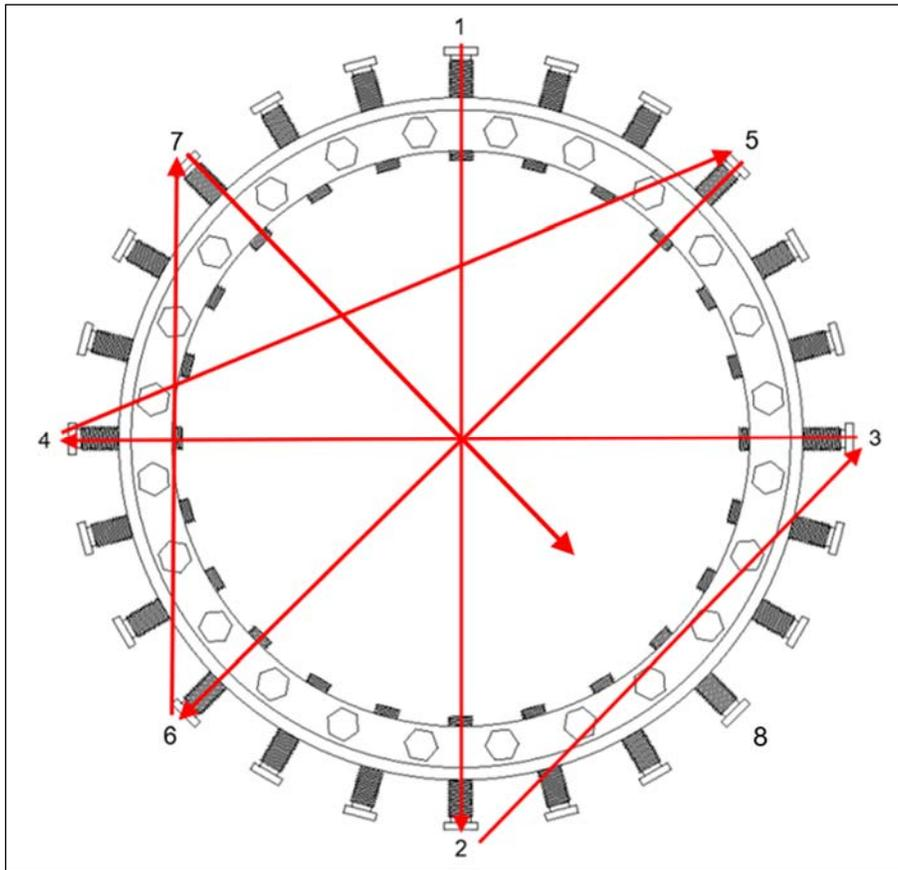

Figure 5
- Clamp screws must be tightened evenly, maintaining an equal space between the pipe and the coupling using the recommended torque values. Tighten the clamp screws one at a time (torque values in Table 3) in a repeated sequence that matches Figure 5. The first time through the sequence, tighten the screws to 25% of the minimum torque. The second time through, tighten the screws to 50% minimum torque. The third time through, tighten the screws at 100% torque. Then, repeat the sequence at 100% torque until the clamp screws are unable to continue spinning (see Table 4 for torque percentage for each sequence).